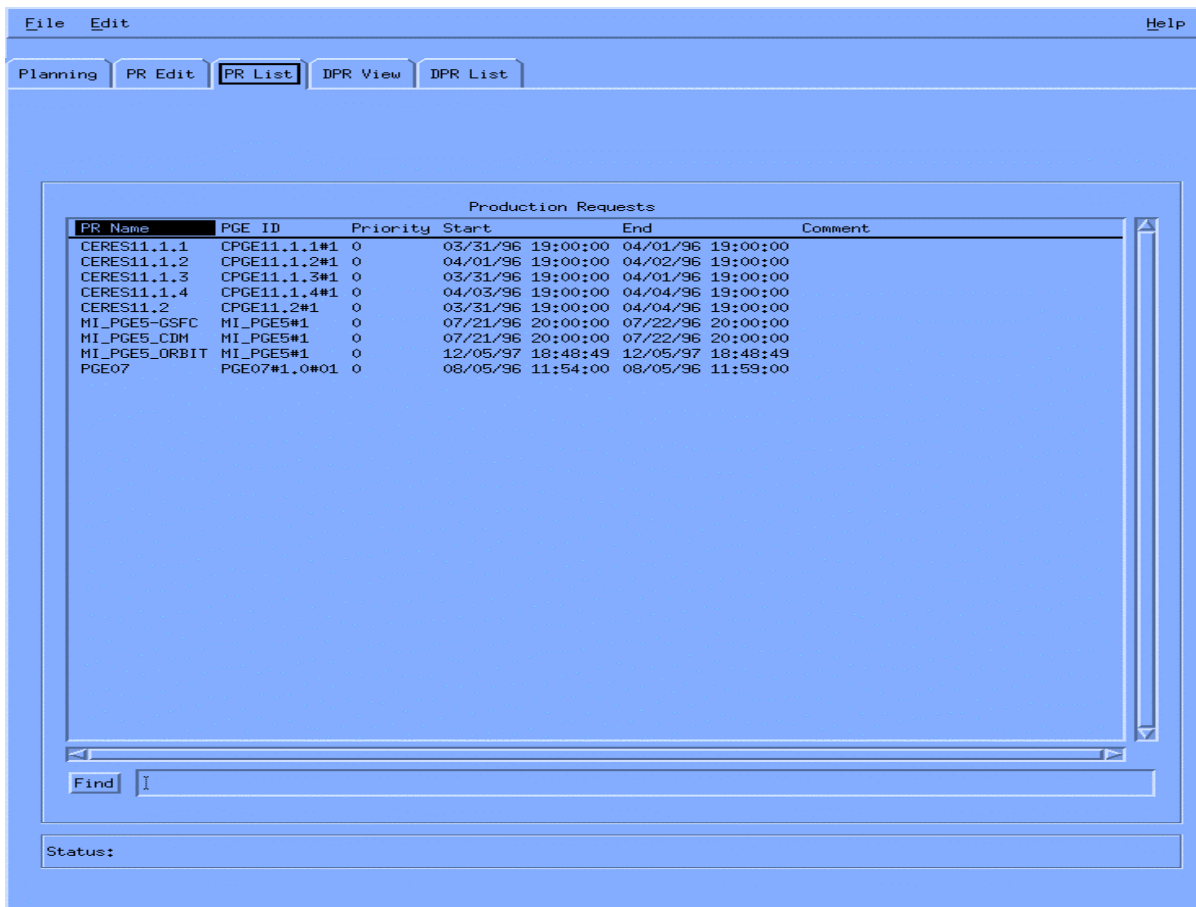

Figure 26.14.4-1. PR List GUI
- The PR List page will be displayed as shown in **Figure. 26.14.4-1**.